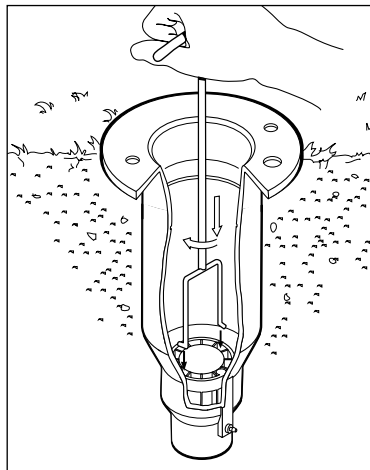

Figure 4
2. Use valve removal tool (P/N 995-08) to remove valve assembly from base of sprinkler body. Valve Removal Tool is inserted into sprinkler body and pushed through valve ribs to the underside of valve. A slight twist will lock tool to valve enabling removal by pulling straight up and out. (See **Figure 4**.)